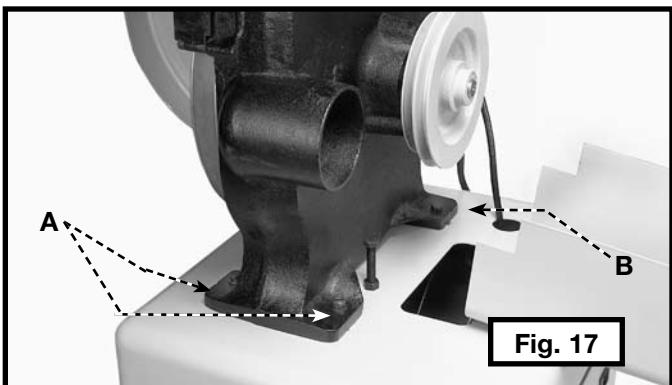

Fig. 17
1. Place the band saw on top of the stand as shown in Fig. 17.
3. Place an M8 lockwasher and a M8 flat washer on a hex head screw (M8x1.25x40mm). Insert the screw through one of the holes (A) in the saw and the stand.
5. Repeat this process for the other hole (A).
7. Repeat STEPS 3 AND 4 for the two remaining holes (B) Fig. 17 (one of which is shown).